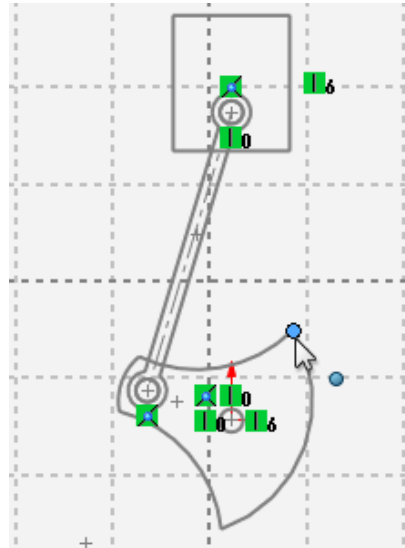

Figure 2-35 Point selected to view the motion of the mechanism
- To view the motion of the mechanism, press and hold the left mouse button on the point, as shown in Figure 2-35, and then rotate the cursor in the clockwise direction.